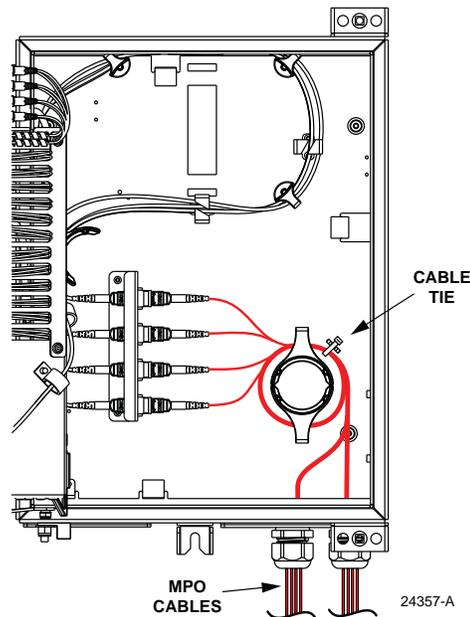

Figure 51. Securing Cable Slack to Cabinet
15. Use a tie-wrap to hold the cable slack in place around the radius limiters and to prevent cable pull-out as shown in Figure 51. A lance is provided for securing the cable slack to the back of the cabinet.